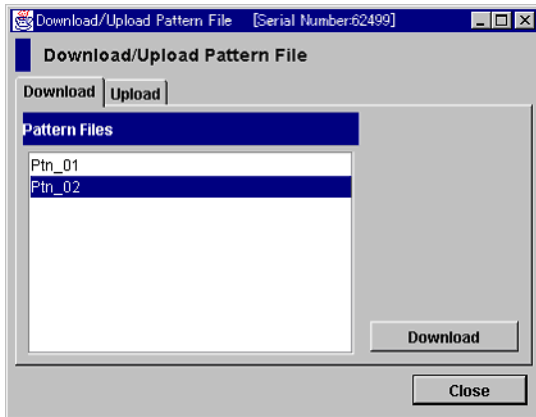

Figure 202 Download/Upload Pattern File window (Download tab)
1. From the LDEV Guard window, click **Download/Upload**. The Download/Upload Pattern File window is displayed (Figure 202).